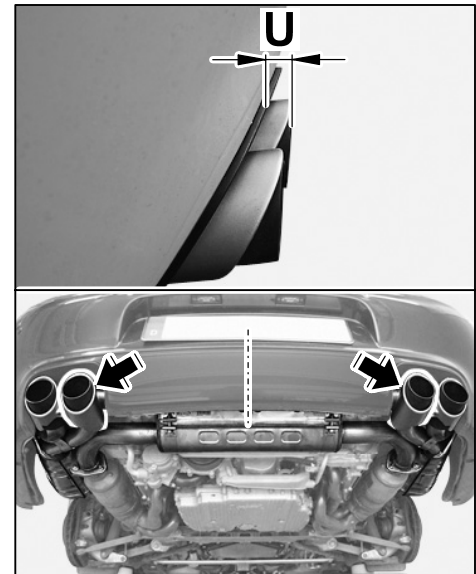

Figure 27
- U** – Projection of tailpipe cover (inner pipe) ⇒ *Figure 27 -arrows-* with respect to rear apron: